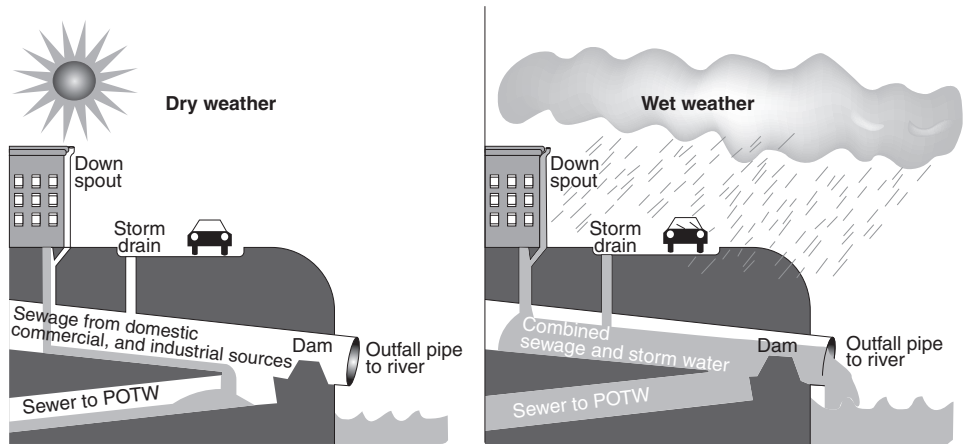

Figure 9.6
- A *combined sewer* carries both sanitary wastewater and storm water runoff. Its contents should go to a wastewater treatment plant. However, if a heavy storm exceeds the capacity of the system, it overflows. Then, the combined *sewer overflow (CSO)* containing both untreated sewage and contaminated storm water discharges into nearby water bodies untreated.33 See Figure 9.6. Combined sewers date from the late nineteenth and early twentieth century, and remain in use in many hundreds of eastern and mid-western US cities.